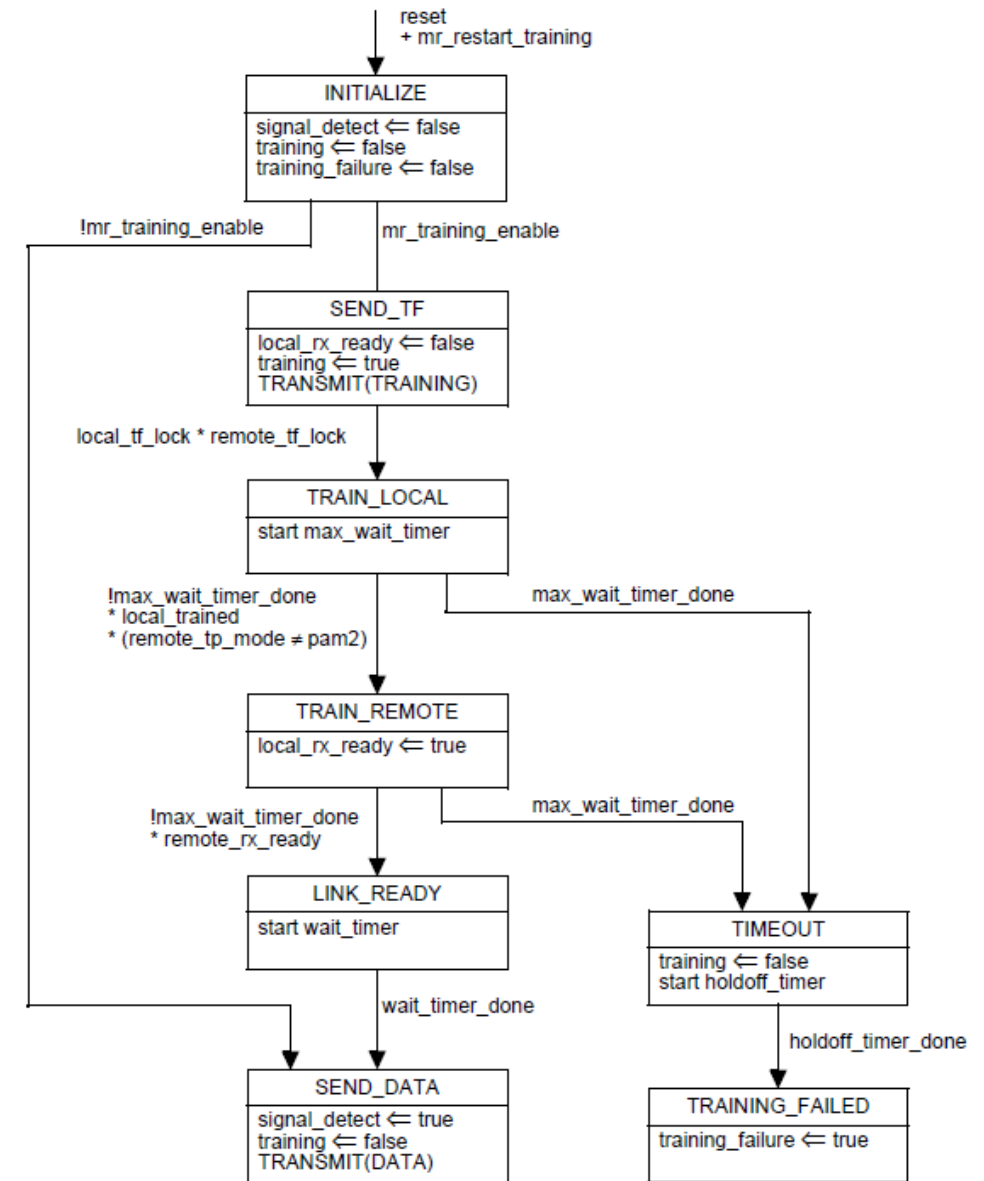

Figure 136-7—PMD control state diagram
- The currently defined state machine in Clause 136.8.11 (Figure 136-7) does not autonomously recover from a partner restarting during link training in this “force PHY speed” case